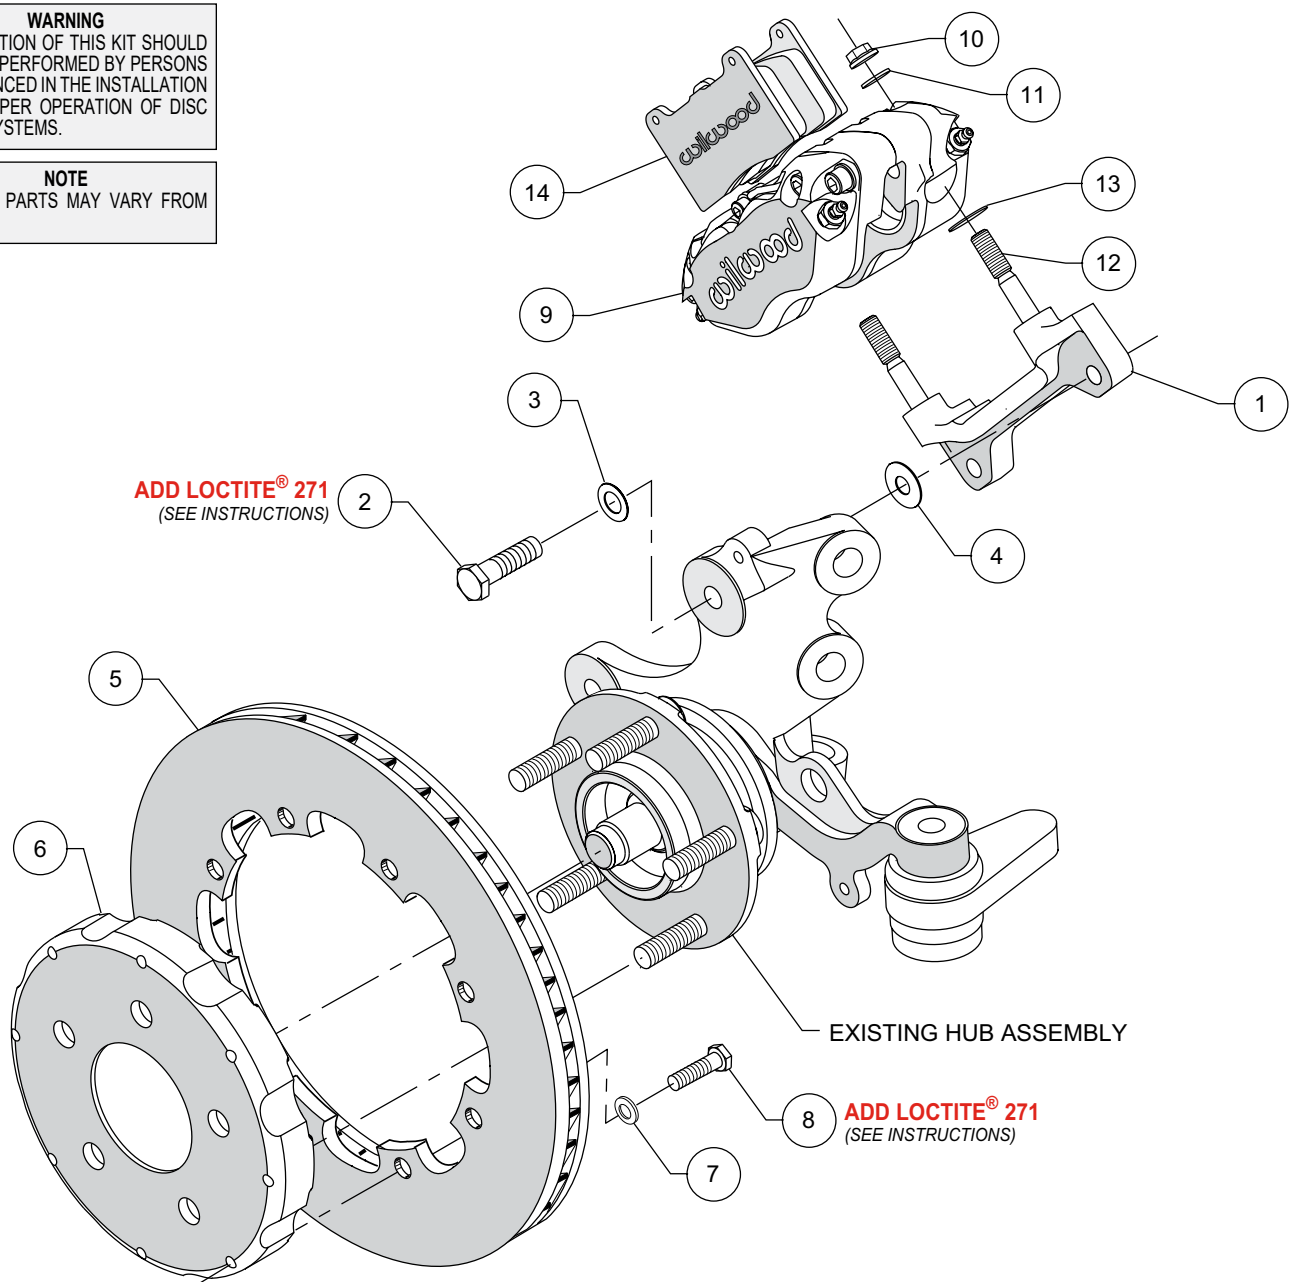
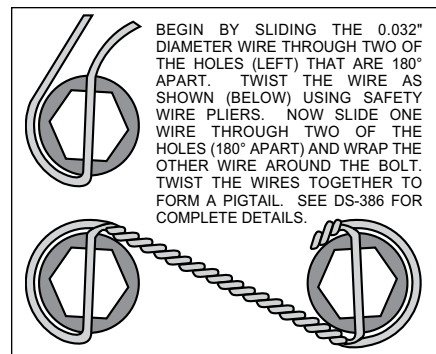

Figure 1. Typical Installation Configuration
Figure 3. Safety Wire Diagram
- The caliper mount bracket assembly (1) should be installed first with clean, dry threads on the mounting bolts. Install the bracket on the inboard side of the spindle by sliding bolt (2) through flat washer (3), and spindle ear from the outboard side of the spindle. Place shim washer (4) between the bracket (1) and the spindle (see figure 1). The bracket must tighten squarely against the inboard side of the caliper mount bosses on the spindle body. Inspect for interference from casting irregularities, machining ridges, burrs, etc. Use one thin shim (5) between the bracket and spindle during initial trial fitting. Later, after the caliper, pad, and rotor alignment has been checked, and any necessary shims have been put in place, the mount bolts should be coated with red *Loctite*® 271 and torqued to 60 ft-lbs.
- With the larger I.D. side of the rotor (5) facing away from the hat (6), attach the rotor (5) to the hat (6) using washers (7) and bolts (8) as shown in Figure 1. Apply red *Loctite*® 271 to the bolt threads and torque to 25 ft-lb using a criss-cross pattern. For an added measure of security, the bolts may be safety wired using standard 0.032 inch diameter stainless steel safety wire as shown in Figure 3. Please refer to Wilwood's data sheet DS-386 (available at www.wilwood.com/Pdf/DataSheets/ds386.pdf) for complete safety wire installation instructions.
- Install one shim (13) over each stud (12) on the radial mount bracket. Slide the caliper (9) in place over the studs and rotors and install the washer (11) and lock nut (10) to hold the caliper in place. Snug the lock nuts (10) and check that the rotor (5) is centered in the caliper (9). Add or subtract .015" shims (4) as necessary between the mount bracket and the spindle to center the caliper.
- Remove the caliper center bridge pad retainer bolt, nut, and tube from the caliper. Slide the brake pads (14) into place. They should install easily without interference. Check that the outside radius of the brake pad is aligned with the outside diameter radius of the rotor face. Add or subtract shims (13) between the caliper and mount bracket to gain the proper alignment. Reinstall the center bridge pad retainer tube, bolt, and lock nut. The locknut should be snug without play in the bolt or tube. Be cautious not to over tighten.
- Once all clearances have been checked, remove the wheel, caliper, hat, and rotor from the spindle and hub. Secure the caliper mounting bracket (1) to the spindle using red *Loctite*® 271. Torque the bolts to 60 ft-lbs. Reinstall the hat and rotor assembly and again use several lug nuts to hold it in place. Reinstall the caliper and torque the caliper nuts (10) to 30 ft-lbs.